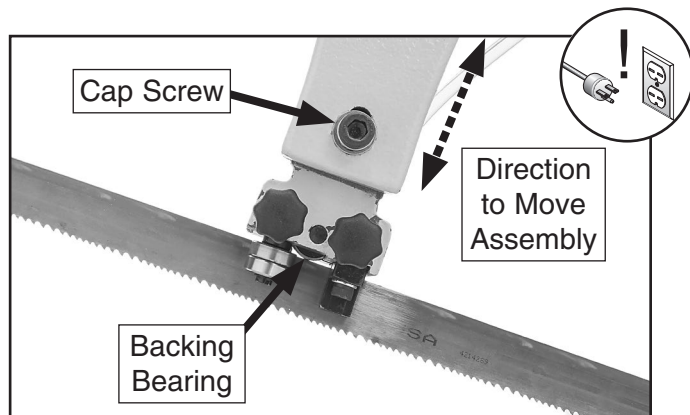

Figure 59. Backing bearing touching blade.
5. Loosen cap screw on right blade guide arm (facing front of machine), as shown in **Figure 59**, and move assembly up or down until backing bearing lightly touches back of blade, then tighten cap screw.